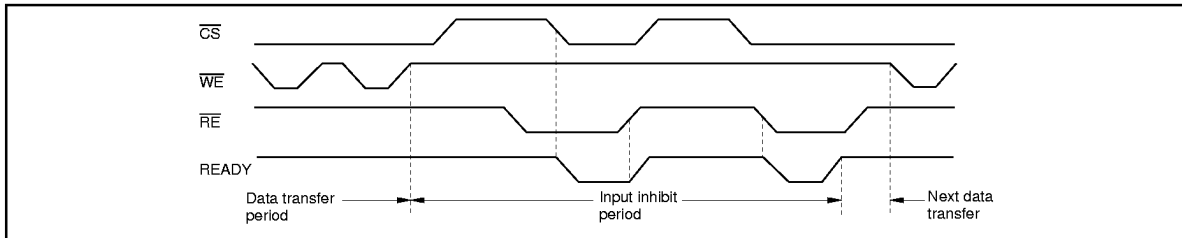

Figure 13 **READY** Output Timing (When It Is Made Available by  $\overline{CS}$  and  $\overline{RE}$ )
- b. READY is mode available by  $\overline{CS}$  and  $\overline{RE}$  (Figure 13).